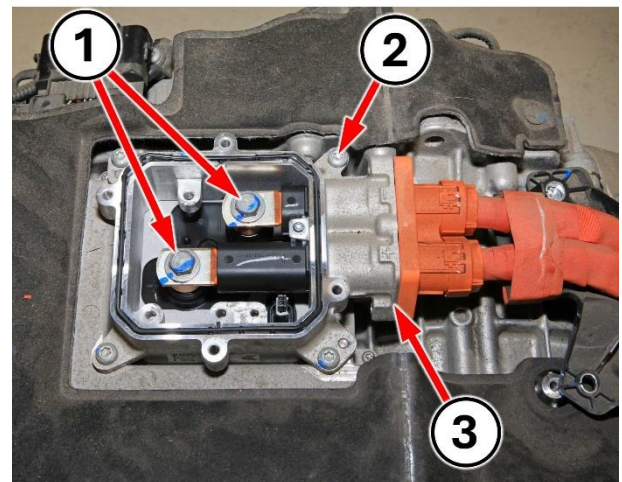

Figure 47 – EDM Cover Plate
94. Position the high voltage cables and housing assembly (3) to the EDM (Figure 47).
95. Install the four screws (2) that secure the high voltage cable housing to the EDM and tighten the screws to 8 N·m (70 In. Lbs.) (Figure 47).
96. Install the two bolts (1) that secure the high voltage wire harness to the EDM and tighten the bolts to 20 N·m (15 Ft. Lbs.) (Figure 47).